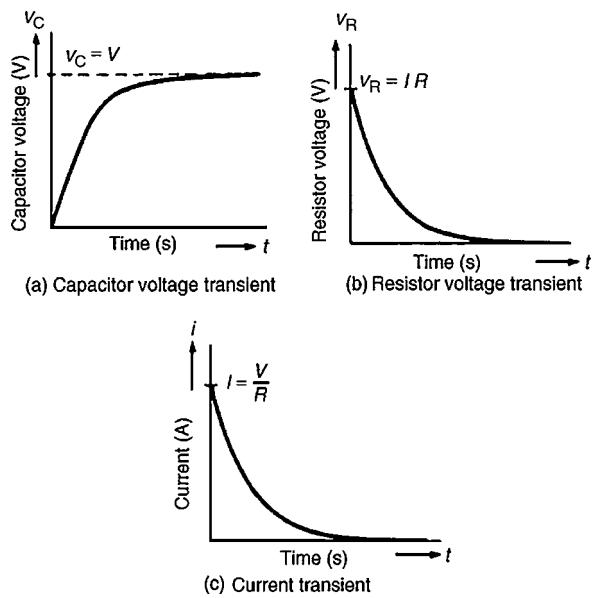

Figure 18.2
- (c) A short time later at time t_1 seconds after closing S , the capacitor is partly charged to, say, q_1 coulombs because current has been flowing. The voltage v_{C1} is now (q_1/C) volts. If the current flowing is i_1 amperes, then the voltage drop across R has fallen to $i_1 R$ volts. Thus, Equation (2) is now $V = (q_1/C) + i_1 R$.
- (e) Ultimately, a few seconds after closing S , (i.e. at the final or **steady state** condition), the capacitor is fully charged to, say, Q coulombs, current no longer flows, i.e. $i = 0$, and hence $v_R = iR = 0$. It follows from Equation (1) that $v_C = V$.
- (f) Curves showing the changes in v_C , v_R and i with time are shown in Fig. 18.2
The transient curves shown in Fig. 18.2 have mathematical equations, obtained by solving the differential equations representing the circuit. The equations of the curves are: